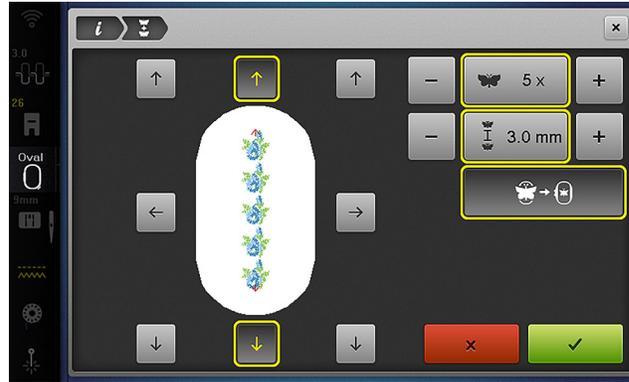

Fig. 8
- Activate Fit to Hoop (Fig. 8), then confirm the Endless Embroidery selections by tapping the green check mark.